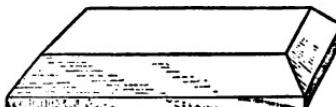

FIG. 50.
**Bevelling or Chamfering.**—To bevel or chamfer is to cut a right angled edge obliquely : fig. 50 represents a bevelled block. The bevel may be equally inclined to both of the adjacent surfaces, in which case it forms an angle of  $45^{\circ}$  with each ; or it may be